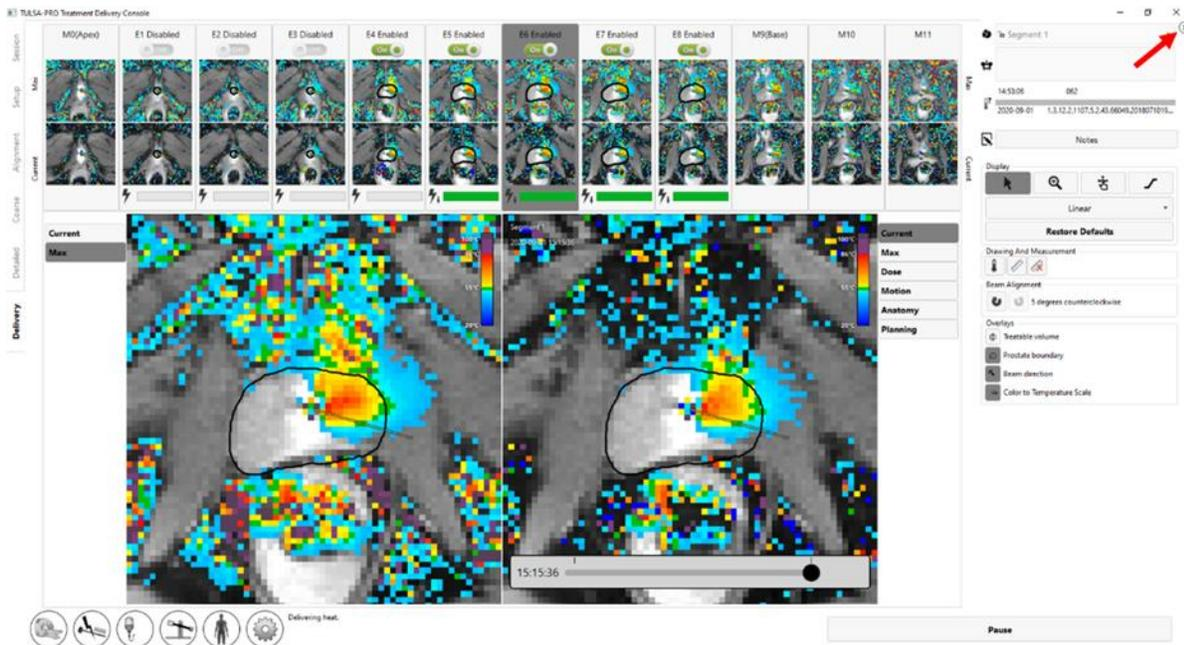

Figure 50: Misaligned ultrasound heating and UA beam angle. Button to expand or minimize the tools panel on the right of the Delivery workspace is marked.
**During treatment delivery, if it is observed that the direction of ultrasound heating and the UA beam angle do not correspond or align with each other on the Current Temperature view (Figure 50), adjust the beam angle. If the adjustment does not resolve the problem, click Pause and create a new treatment segment (see 10.h *Creating a new Treatment Segment*) to suspend ultrasound delivery and thermometry acquisition. Enter the MRI room to ensure the UA is properly mated to the PS. If the problem persists, contact a Profound Medical authorized service representative.**